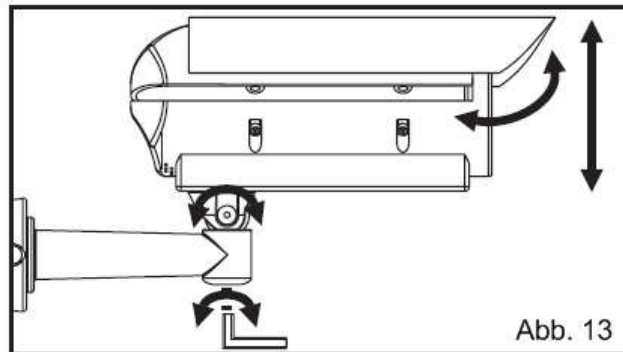

Abb. 13
- Adjust the housing as needed. Tighten the adjustment screws for positioning the housing (fig. 13).